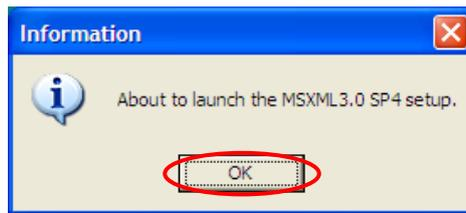

Figure 1-1-10 Installation Steps (10)
- Then an interface "About to launch the MSXML 3.0 SP4 setup" will appear, and then click "OK", as shown in figure 1-1-10.